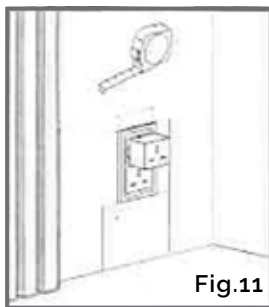

Fig.11
- Measure where the socket should be placed on the panel. ( fig: 11 )